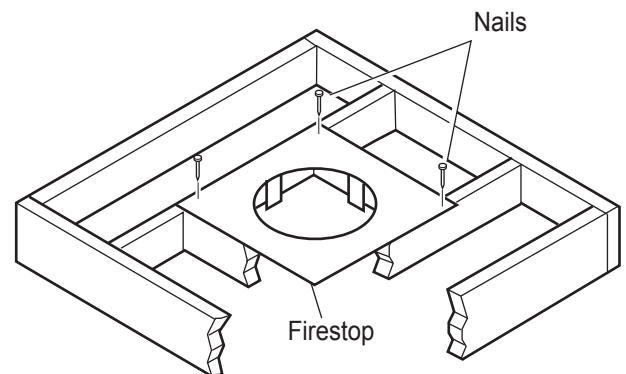
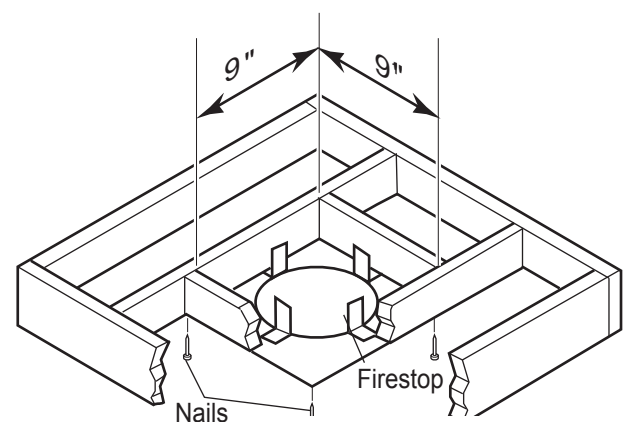

Figure 28- If area above is a room, install firestop above framed hole as shown
Figure 29 - If area above is not a room, install firestop below framed hole as shown
1. Cut a 9" (229mm) square hole in the ceiling using the locating hole as a center point. The opening should be framed to 9" (229mm x 229mm) inside dimensions as shown in *Figure 12*, page 17 using framing lumber the same size as the ceiling joist. If the area above the ceiling is an insulated ceiling or a room, nail firestop from the top side. This prevents loose insulation from falling into the required clearance space. See *Figure 28*. Otherwise, install firestop below the framed hole. The firestop should be installed with no less than three nails per side. See *Figure 29*.